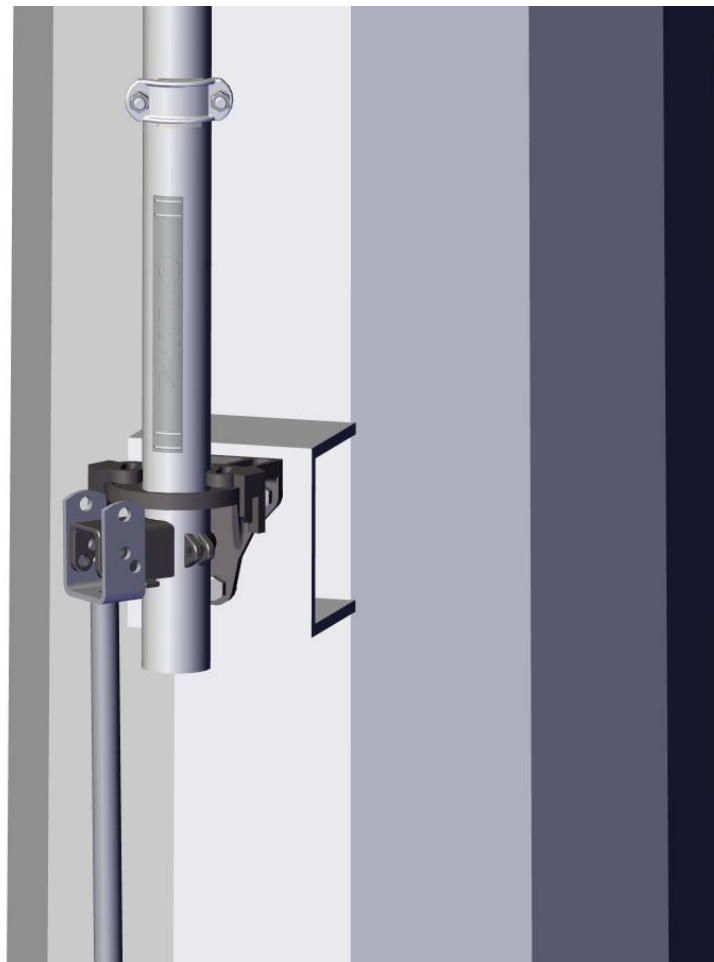

Figure 25: Typical Swing Handle
- i) When the switch is properly adjusted the handle should hang vertically and free in both the open and closed positions to permit the use of a customer supplied padlock. See Figure 25.